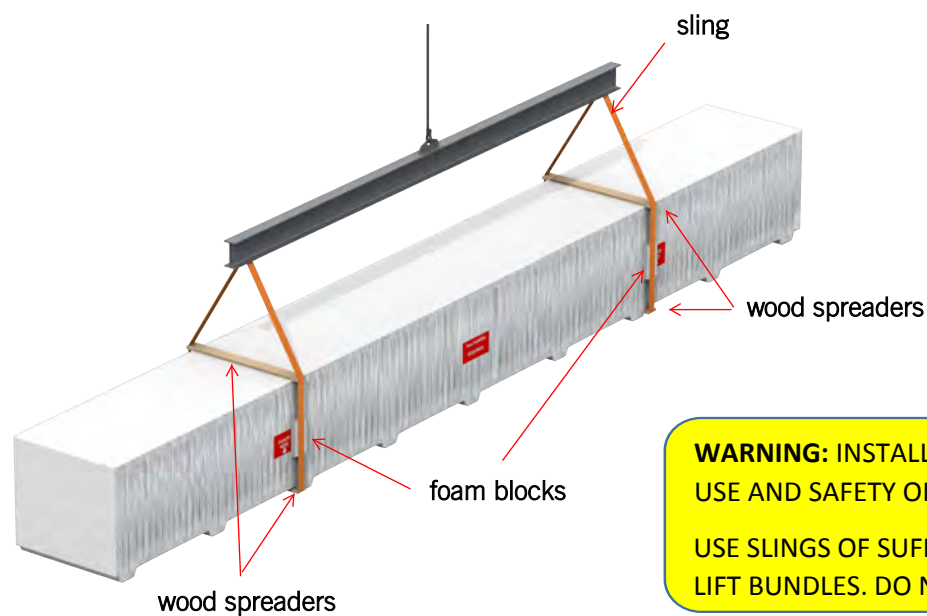

Figure 5.12
5.12 Place foam blocks on sides of bundles at all sling locations as shown in figure 5.12.
5.13 Bundles *under 4,000 lbs. and less than 44'* may be lifted as shown in figure 5.12